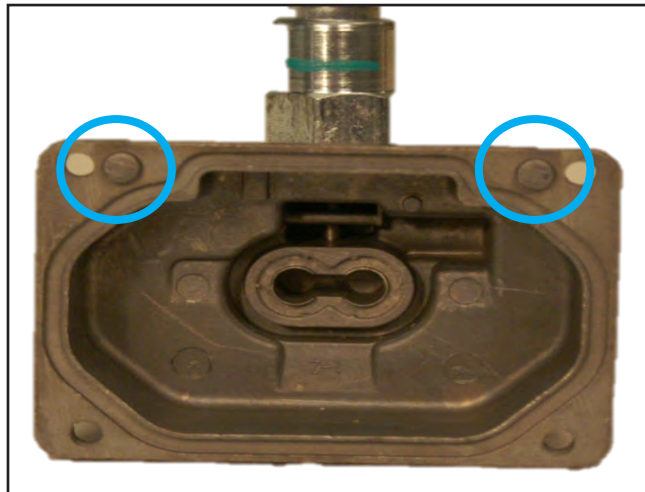

Figure 39
3. Align the two pins of the float bowl to the two holes in the carburetor body (Figure 39).